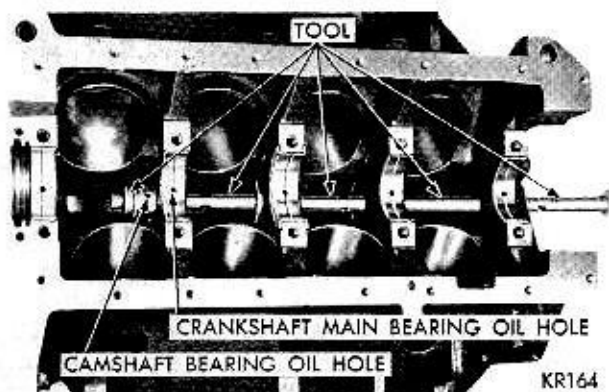

Fig. 25—Removing Camshaft Bearing Using Tool C-3132A
(1) With engine completely disassembled, drive out camshaft rear bearing welch plug.
(2) Install proper size adapters and horse shoe washers (part of Tool C-3132A) at the back of each bearing to be removed and drive out bearings (Fig. 25).
(1) Install new camshaft bearings with Tool C-3132A. Place new camshaft bearing over proper adapter.
(2) Position bearing in the tool. Install the horse shoe lock and by reversing removal procedure, carefully drive bearing into place (Fig. 25).
(3) Install remaining bearings in like manner.